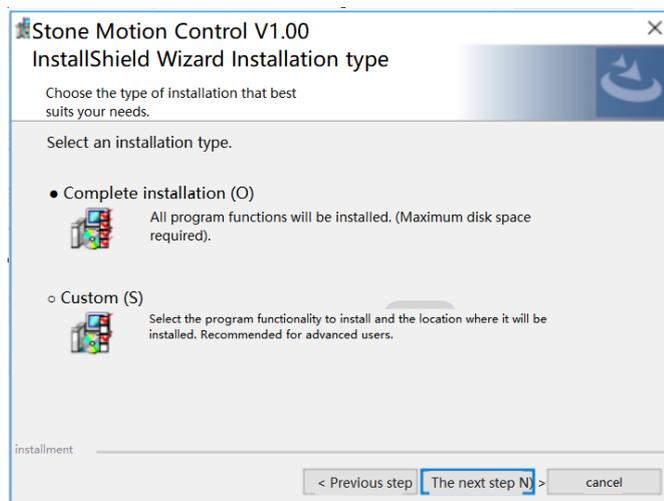

Figure 5-4 Setup type
5. Click "**Next**", and select the setup type, as shown in Figure 5-4. Generally, please use the default type.